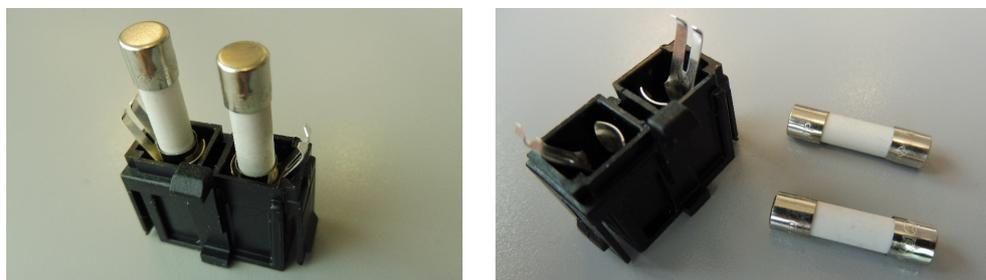

Figure 8-2: Replacing the fuses
7. Remove the fuses from the fuse holder as in Figure 8-2.